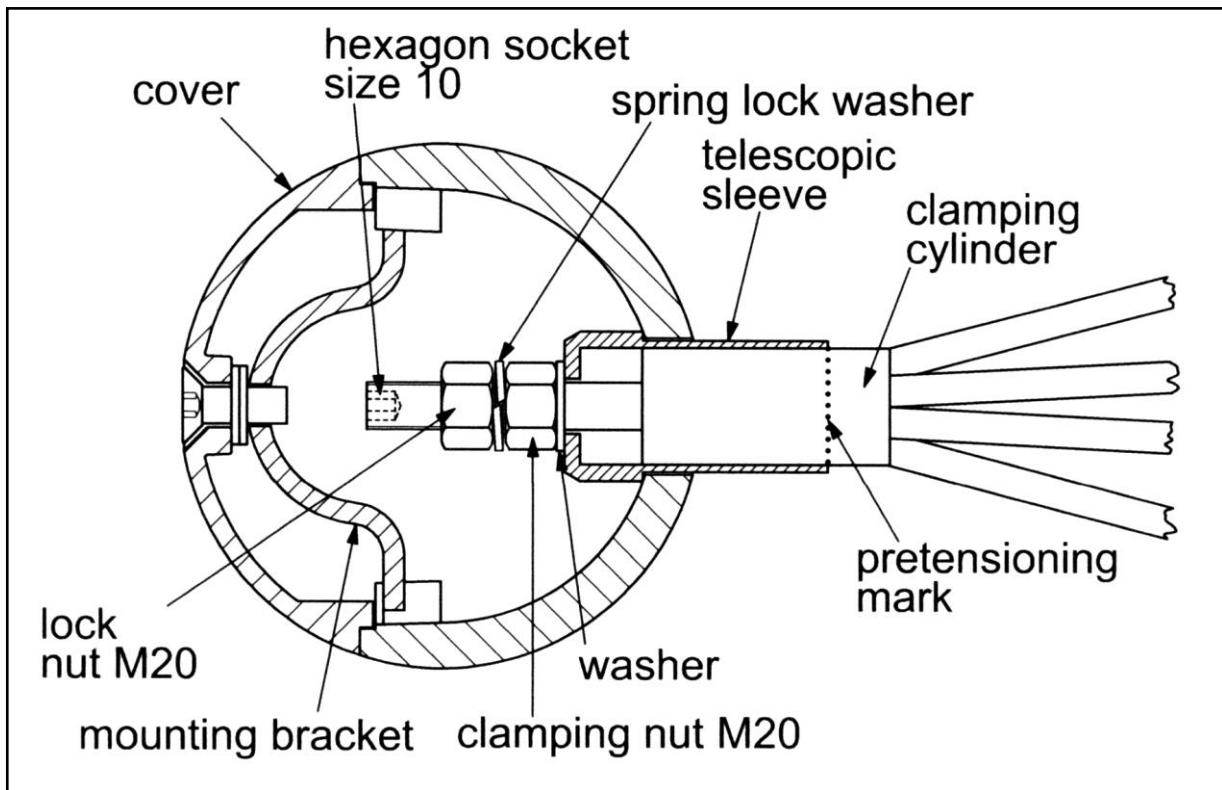

Figure 6 Secucope tensioning system
The space netting is provided with appropriate markings on the straining screws for the joints which are used for tightening. First place the four straining screws with the marking **K 12** into the uppermost joints (**level 2**), at first only tightening to the mark on the tensioning cylinder (**figure 6**). The tensioning is to be carried out with a clamping nut and the special socket key SW 32.
To tighten the check nuts can on the respective thread bolt M20 an Allen key SW 10 (figure 6) to be used to hold against it.
At last the open hollow balls have to be closed. The caps have to get screwed onto the hollow balls ( K11, K12 and K13) with the binder connection (figure 6).
- The first re-tensioning of the equipment must be carried out after it has been used for between 1 and 2 weeks. Re-tensioning is done using the clamping nuts M20 which are situated in the hollow spheres of the **level 1 and 2 (K 11 and K 12)**. After removing the cover, using a size 10 Allen key, the locking nut M20 SW32 is to be loosened at first. The re-tensioning is carried out on clamping nut SW 32 **beyond the pretensioning mark**. All connection joints of **levels 1 and 2** should be re-tensioned in a uniform fashion. After being tensioned, lock the clamping nuts with the locking nuts which you have removed beforehand (**figure 6**). **Please note the right position of the spring lock washer between the two nuts**. **When you tightened the lock nut, you can hold up the M20 bolt with an Allen key size 10 (figure 6)**. Now the hollow spheres are locked with the prepared ball covers via the retaining bolt in the cover. Please fix all the covers that our logo is readable. Thank you.